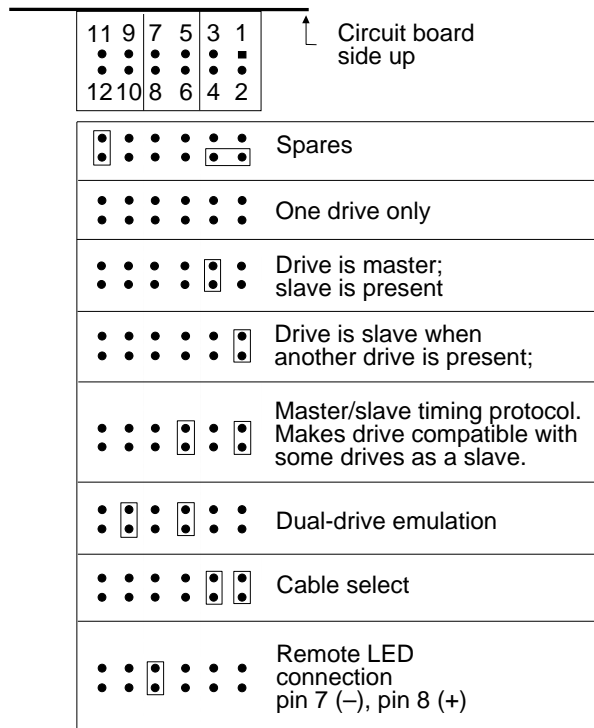

Figure 2. Type A configuration settings
3. Ground yourself.**4. Remove the drive from its antistatic bag.** You must be grounded at all times when handling the drive.**5. Configure the drive.** The drive configuration options are listed below. If you have a Type A drive, refer to Figure 2 on page 9 for the corresponding jumper settings. If you have a Type B drive, refer to Figure 4 on page 13 for the corresponding jumper settings.
1. Attach a remote LED cable. If your computer's drive-activity LED uses a cable, place the connector end attached to the ground wire, usually the black wire, to the (-) pin and the other end to the (+) pin of the options jumper block (J8). For the correct orientation of the pins, refer to Figure 2 on page 9 for Type A drives or Figure 4 on page 13 for Type B drives. The LED can be damaged if the cable is attached incorrectly. You may need to replace the connector on the LED cable.